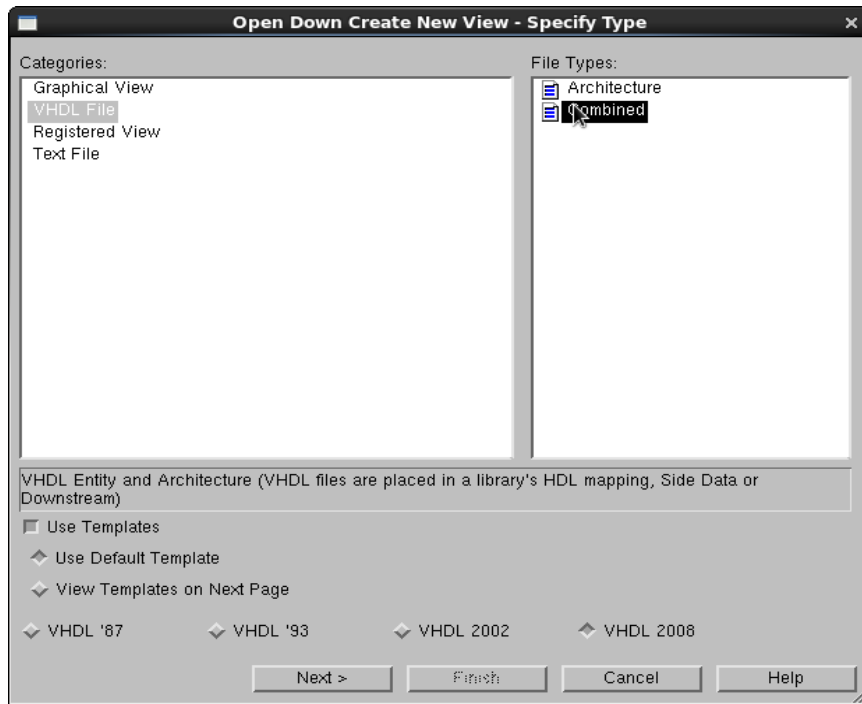

Figure 17 Open Down Create New View, add a VHDL combined view
2. We reach the window in Figure 17, “Open Down Create New View, add a VHDL combined view”. Select VHDL File and Combined file type. Select also VHDL'93. Press next.